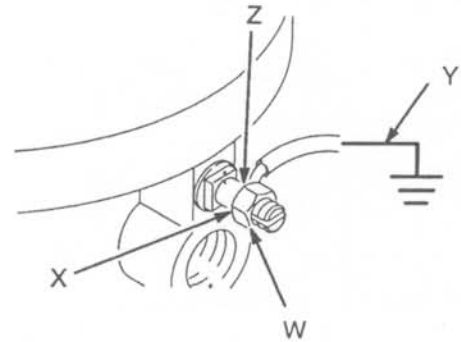

Fig. 1
2. *Pump:* use the ground wire and clamp (supplied). See Fig. 1. Loosen the grounding lug locknut (W) and washer (X). Insert one end of the ground wire (Y) into the slot in lug (Z) and tighten the locknut securely. Connect the other end of the wire to a true earth ground. Order Part No. 237569 Ground Wire and Clamp.